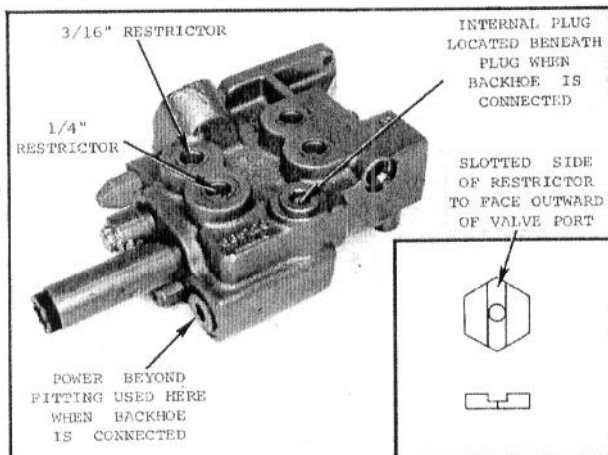

Fig. 29 — Location of Internal Plug and Restrictors
**INFORMATION:** Restrictors are installed in the valve ports as indicated in Fig. 29. Plugs and/or fittings will vary according to whether or not a Backhoe is to be connected to the valve. It is important that the internal plug be removed when a Backhoe is NOT CONNECTED. This plug is used to divert oil to the Backhoe (when installed) instead of allowing it to return to the reservoir (when not installed).
See Figs. 29 through 39.